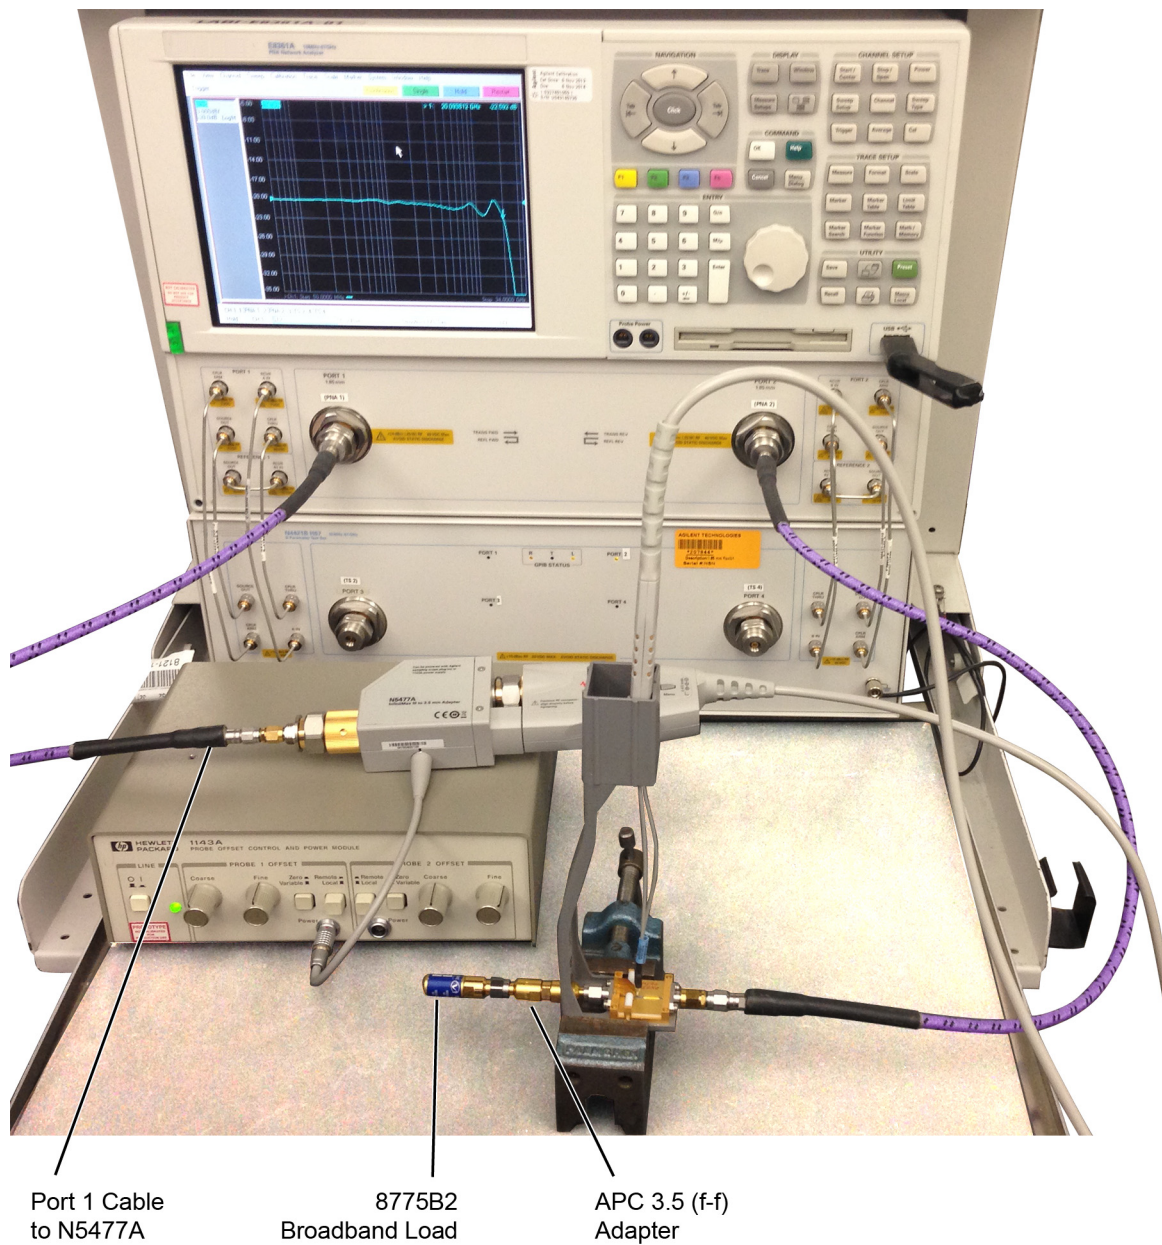

Figure 105 Test Setup to Measure V_{out} of Probe
- 12 As shown in **Figure 105** on page 146, move the Port 1 cable the N5477A. Connect the 8775B2 broadband load as shown in the figure.